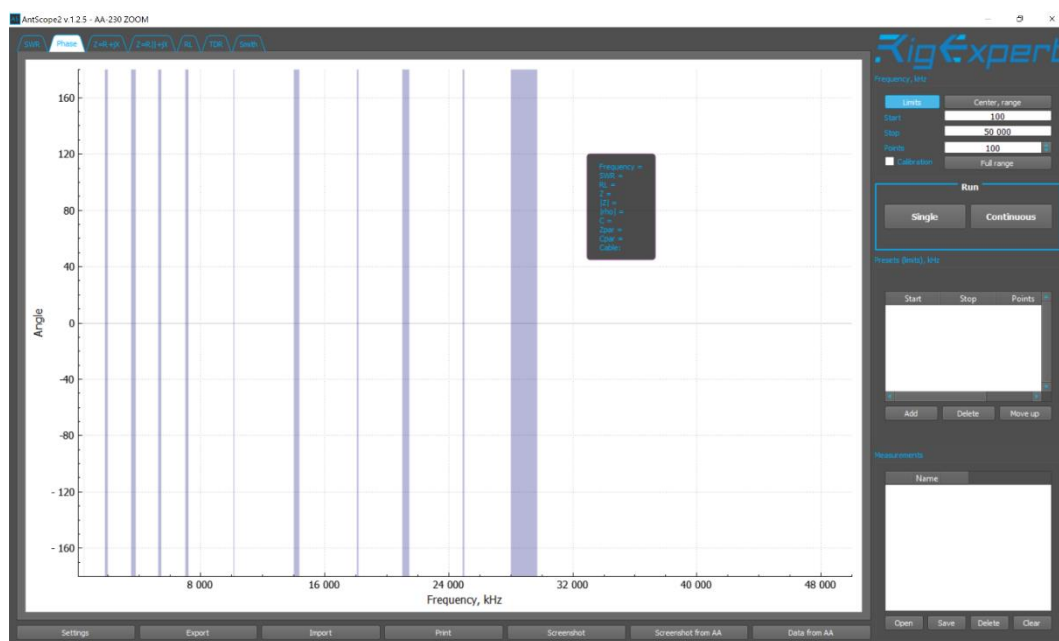

Figure 11-55: AntScope main screen with AA-230 Analyzer
4. Open the AntScope software (use Version 1.2.5). If the Antenna Analyser is connected, the AntScope software should recognise and select the device (AA-230) as shown in Figure 11-55.